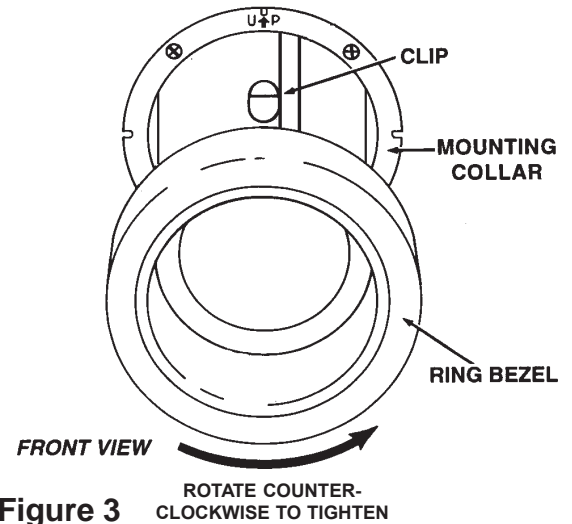

Figure 3 ROTATE COUNTER-CLOCKWISE TO TIGHTEN
- Insert the cup dispenser into the mounting collar so that the clip is aligned with the "UP" arrow. (See Figures 3 & 4)